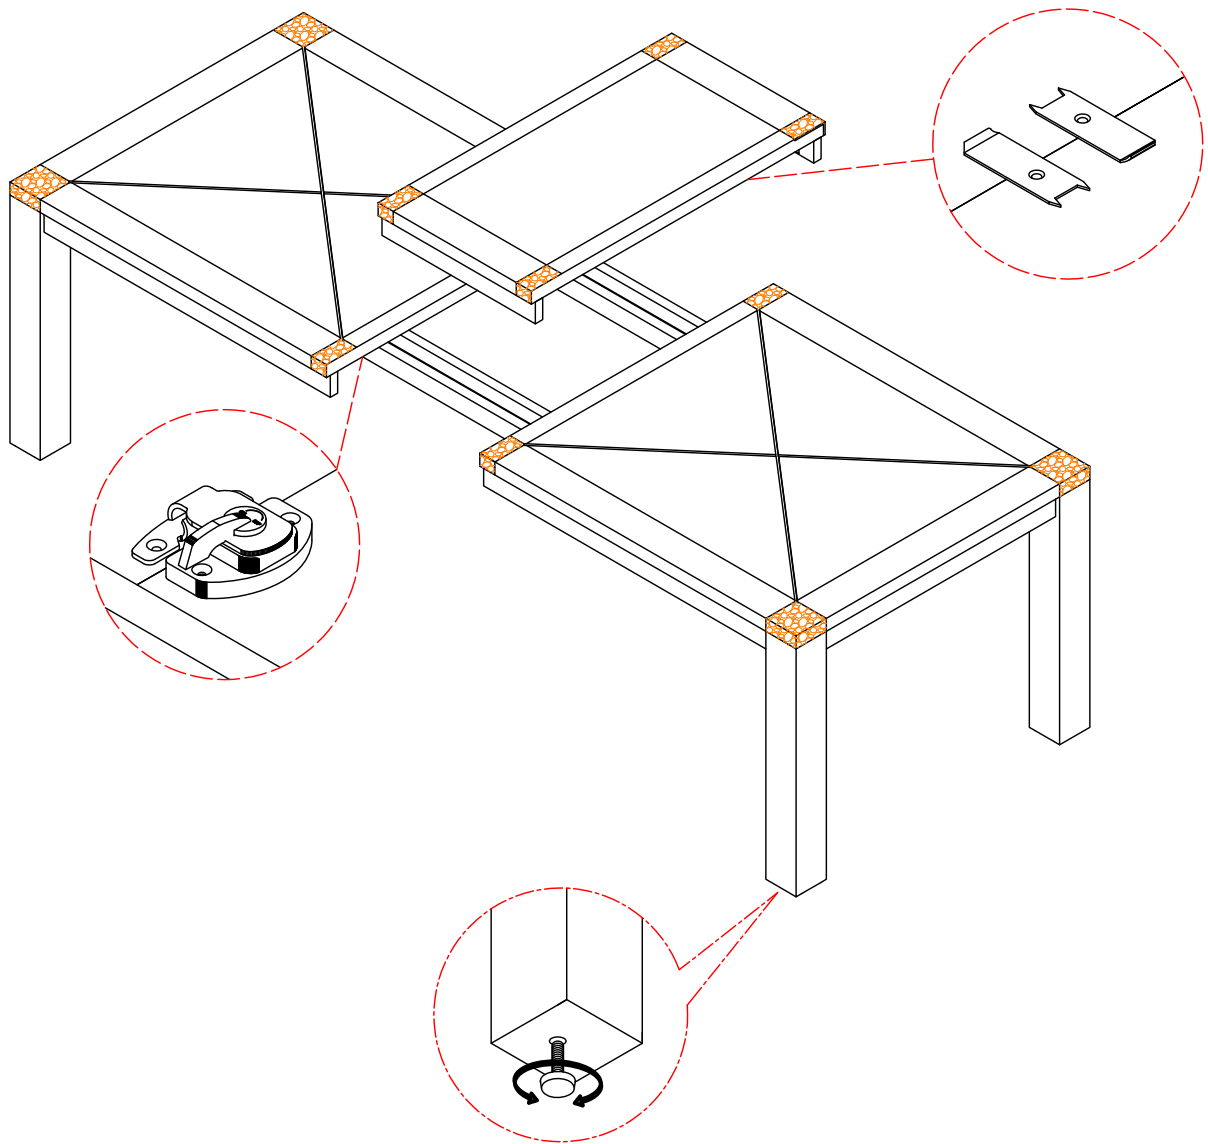

FIG.2
6. If the floor is uneven, the levelers located at the underside of the Leg, to do this lift up the side that needs to be elevated to provide access to the levelers, turn the leveler until adequate contact with the floor as shown FIG.2.